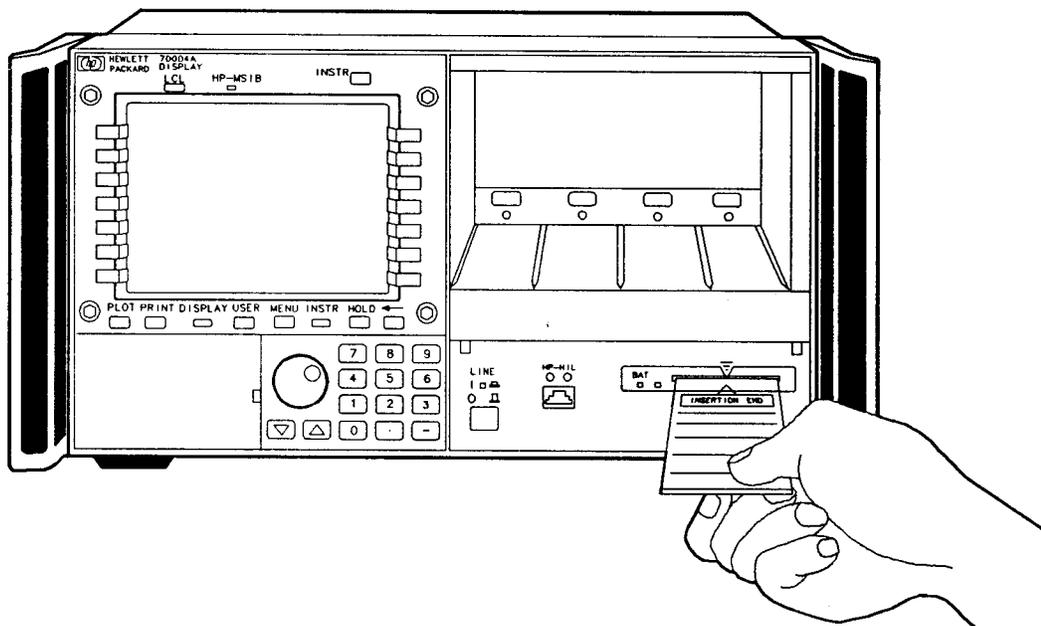

Figure 2-6. Inserting the Memory Card
2. Insert the card with the arrow on the card matching the arrow above the card-reader slot. See Figure 2-6.